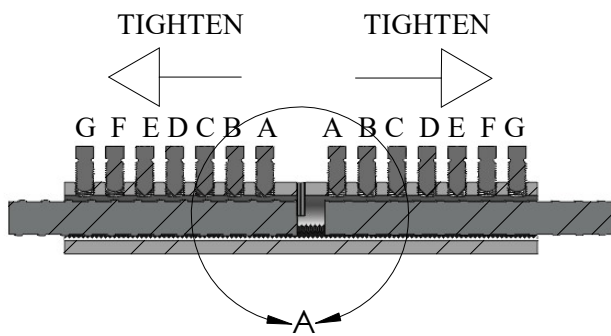

Figure 2 - Assembly Cross Section
Step 4: Pre-torque each bolt to the corresponding value in Table 1. Start with the bolts in the middle, and work in sequence to the outside as shown in Figure 2. During installation ensure the rebar is in contact with both of the serrated rails. The serrated rails need to remain in the manufactured positions during installation. The serrated rails are held in place by a positional weld. Cracking of the positional weld during assembly is acceptable.